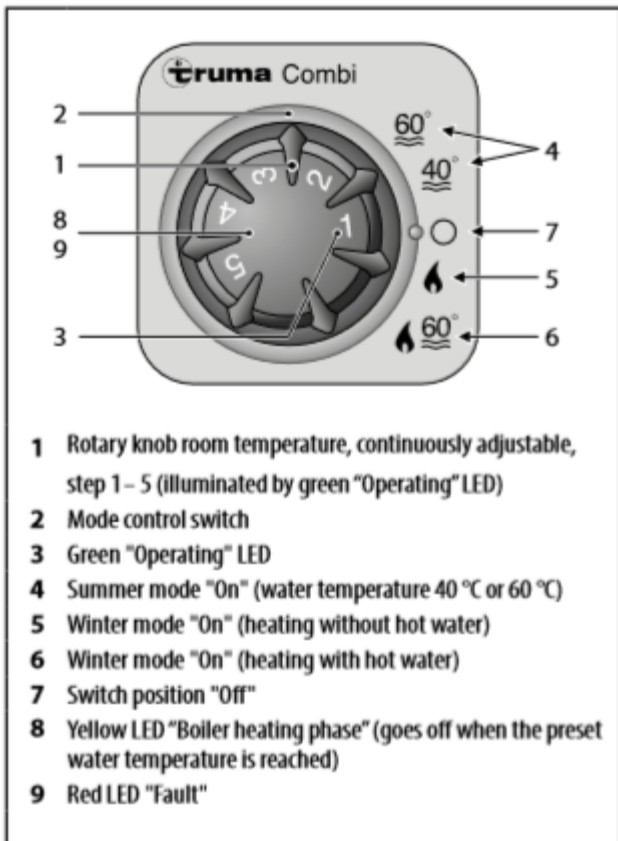

Fig. 7 – TRUMA control panel
1. Set the rotary switch (Fig. 7, item 2) to position (Fig. 7, item 6).
2. Turn the rotary knob (Fig. 7, item 1) to the desired thermostat setting 1 – 5 for the room temperature. Green indicator lamp "Operating" (Fig. 7, item 3) goes on and shows the room temperature selected. After attaining the room temperature selected, the burner switches to the lowest setting and heats the water in the boiler to 60 °C.
Yellow indicator lamp "Boiler warm-up phase" (Fig. 7, item 8) shows the heating phase and goes off when the water temperature has been attained.
1. Set the rotary switch (Fig. 7, item 2) to position (Fig. 7, item 5).
2. Turn the rotary knob (Fig. 7, item 1) to the desired thermostat setting 1 – 5 for the room temperature. Green indicator lamp "Operating" (Fig. 7, item 3) goes on and shows the room temperature selected. After attaining the room temperature selected, the heating switches off. When the boiler is filled, the water is heated automatically as well.
In this mode, the yellow indicator lamp "Boiler warm-up phase" (Fig. 7, item 8) is only on for water temperatures below 5 °C.
Recommended: turn the rotary knob (Fig. 7, item 1) to **thermostat setting 1 or 2 before going to sleep**, due to the fact that during the night the settings 4 or 5 might be too strong and automatically set the heating system **OFF** to avoid overheating.
2. Turn the rotary knob (Fig. 7, item 1) to the desired thermostat setting 1 – 5 for the room temperature. Green indicator lamp "Operating" (Fig. 7, item 3) goes on and shows the room temperature selected. After attaining the room temperature selected, the heating switches off, which might happen during the night.